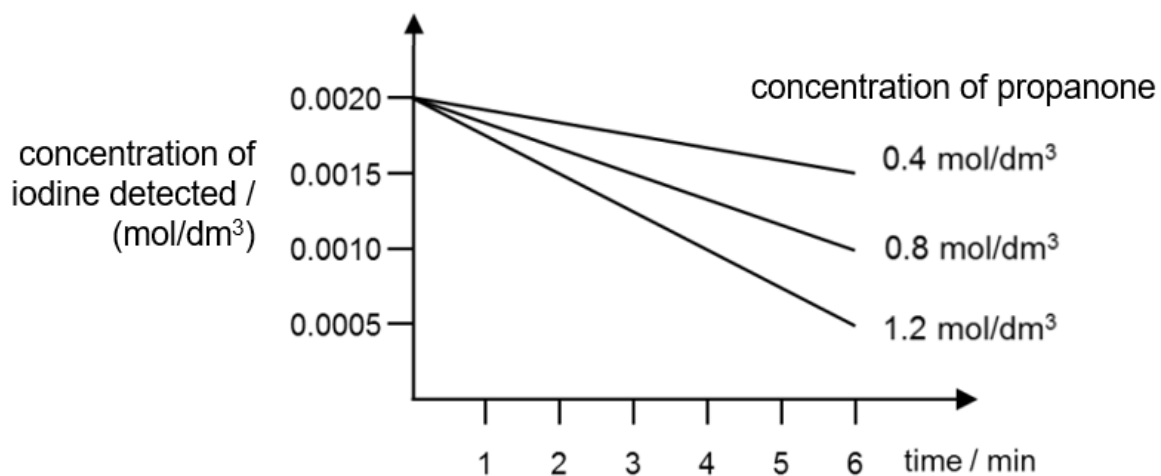

Fig. 9.2
In **experiment 1**, different concentrations of propanone were reacted with a fixed concentration of iodine. **Fig. 9.2** shows how the concentration of iodine changes with time using different concentrations of propanone.
- (i) concentration of propanone. Support your answer using information from **Fig. 9.2**.